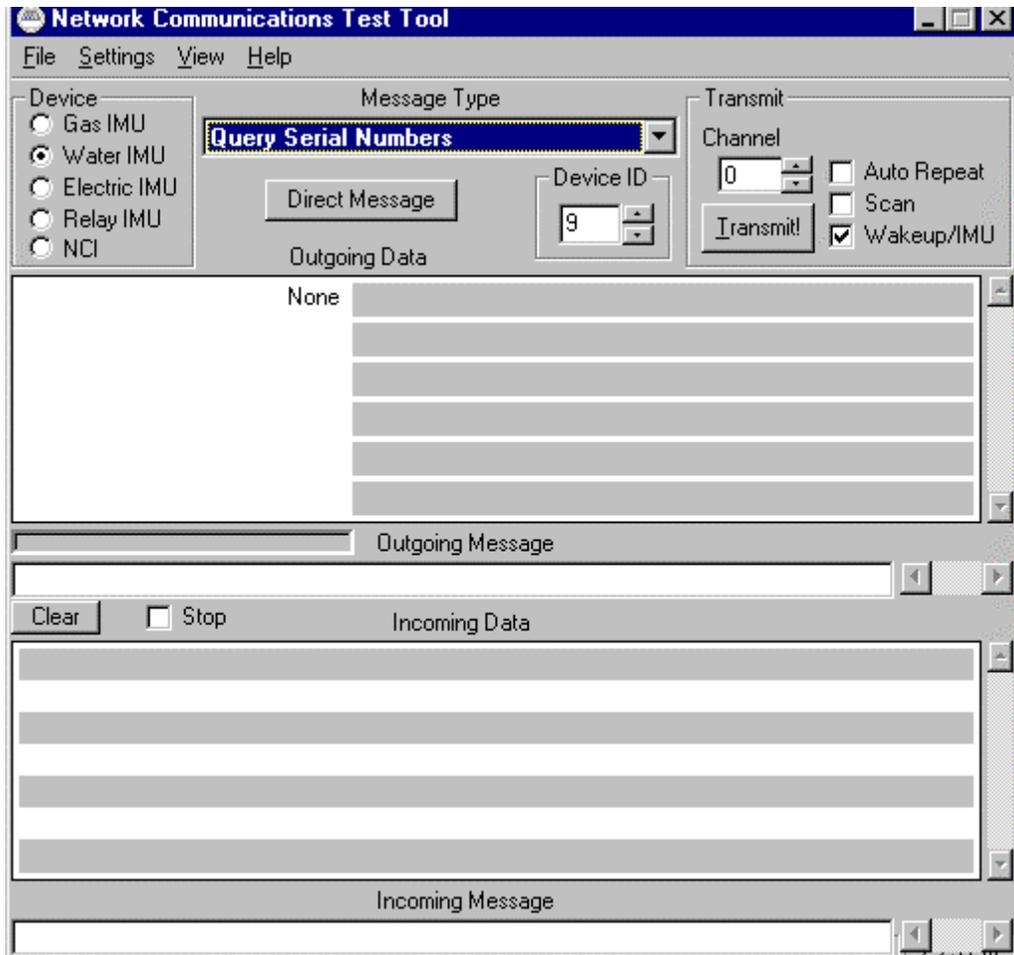

Figure 1. NCTT Query Serial Numbers Screen.
2. In the Message Type pull-down menu, select **Query Serial Numbers**. See figure 1.